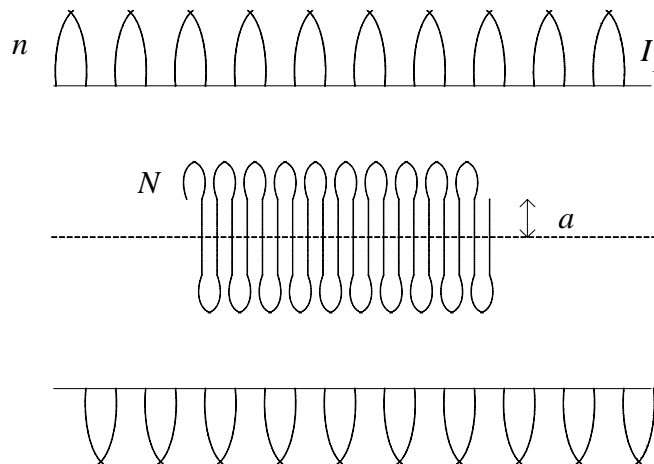

Figure 1: Field and induction coils
According to Faraday's law of induction, voltage can be induced in a circuit due to current passing through a nearby circuit. In this experiment, a large solenoidal field coil (item 6 in the equipment list) is used to generate a time-varying magnetic field by passing an AC current (I_1) through it. Smaller coils (items 7-11 in the equipment list) are used for induction (see Figure 1).